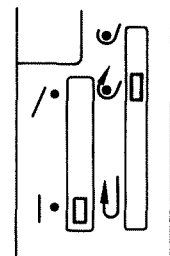

Figure 4
2. Be sure the Auto Feed Lever is set to the center position. (See Figure 4.)